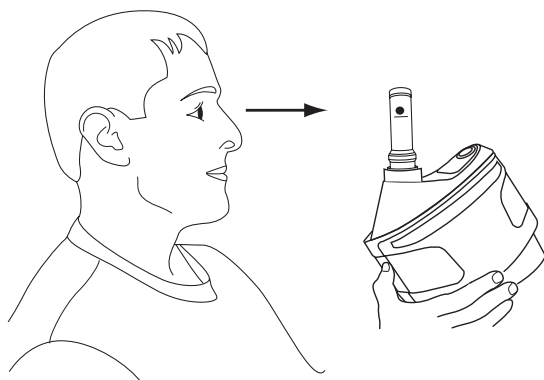

Fig. 13b
- With the airflow indicator in a vertical position, ensure that the bottom of the floating ball rests at, or above, the minimum flow mark (Fig. 13b). Airflow indicator must be in the vertical position for an accurate reading.